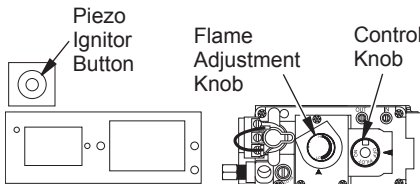

Figure 40 - Control Knob and Ignitor Button Location (Shown as Supplied - No Control Options)
3. Press in and turn control knob clockwise  to the OFF position (see Figure 40, page 24).
4. Wait five (5) minutes to clear out any gas. Then smell for gas, including near the floor. If you smell gas, **STOP!** Follow "B" in the safety information, column 1. If you don't smell gas, go to the next step.
5. Press in and turn control knob counterclockwise  to the PILOT position. Press in control knob for five (5) seconds (see Figure 40).